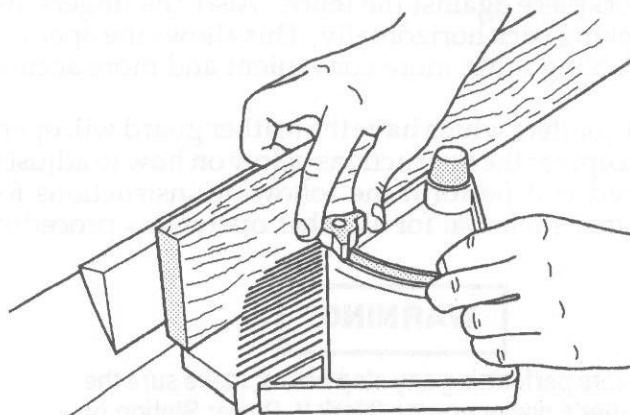

Fig. 21
1. Loosen the feather guard's stop knob (15).
3. Insert the workpiece between the fence and the feather guard. See Fig. 21.
5. Move the stop pin (14) away from the workpiece so it touches the stop stud (16).
6. Tighten the stop knob (15).